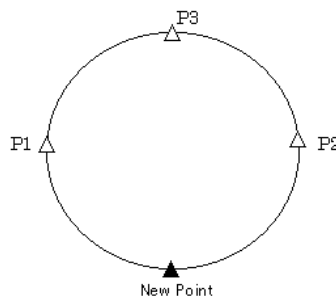

Fig. 2
5) When a new point (station point) and three or more known points are arranged on the same circumference. (Refer to Fig. 2)